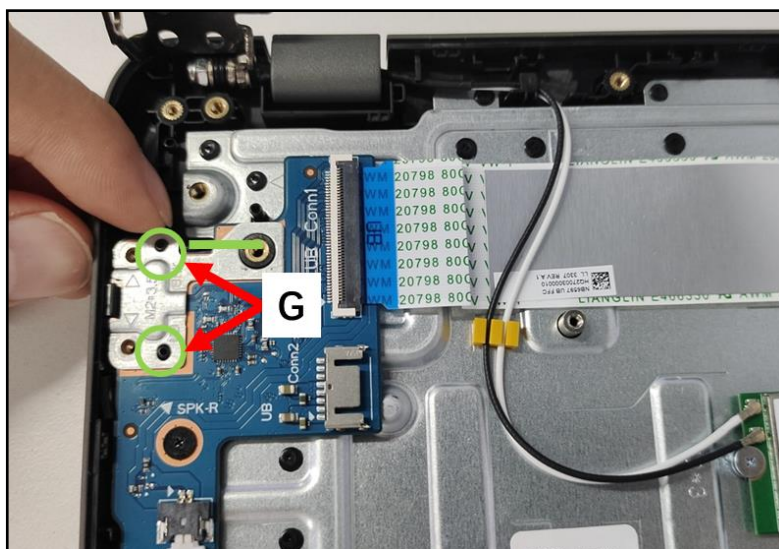

Figure 3-26. USB Board Removal
7. Release the I/O bracket (F) from the I/O port slot and guide pins (G) on the top assembly (Figure 3-26). Then remove the I/O bracket.